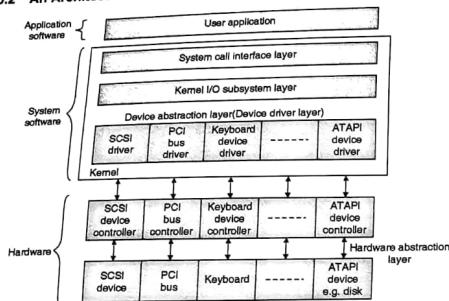

Fig. 13.10.1 : Device driver and Kernel IO structure
- Fig. 13.10.1 shows an abstract overview of device driver and kernel I/O subsystem.